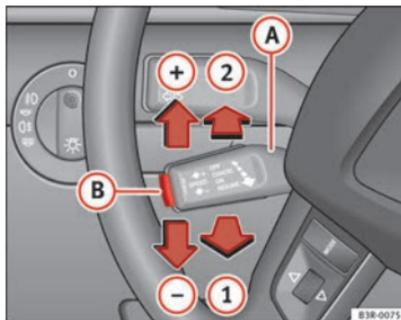

Fig. 144 Controls for the cruise control system
- Pull the lever **A** to position \Rightarrow Fig. 144 **1** to activate the system.
If no speed was stored when the system was temporarily disabled, a new speed can be set as follows: drive at the desired cruising speed and briefly press button \Rightarrow Fig. 144 **B** (SET).
- Move lever **A** ⇒ Fig. 144 to position **2** (click stop engaged).